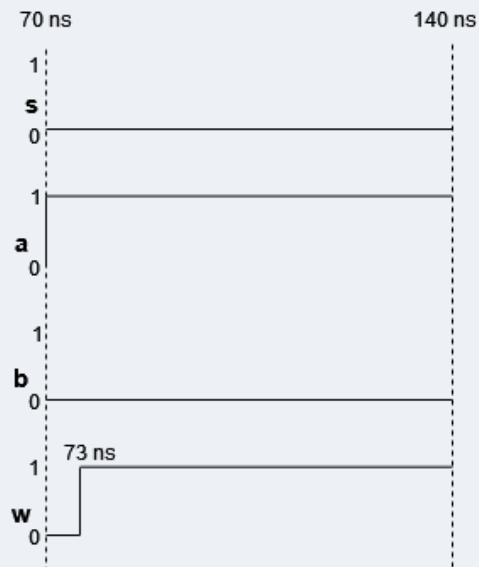

Figure 2.3
- **70 to 140 ns:** As “a”’s value changes to 1, actually there won’t be any changes at the node “n”, and T3 will propagate 1 to the output after 3 ns. So, there won’t be any changes in output till $t=73$ ns, then the output will be updated with 1. (fig. 2.3)